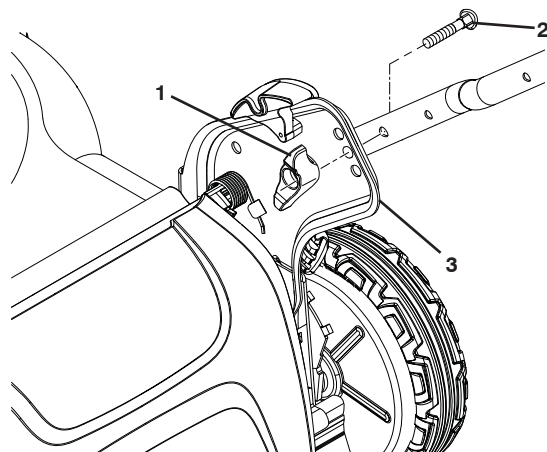

Figure 29
2. Remove the two (2) handle knobs and carriage bolts on sides of the lower handle and pivot entire handle assembly forward and allow it to rest on mower (Figure 29).